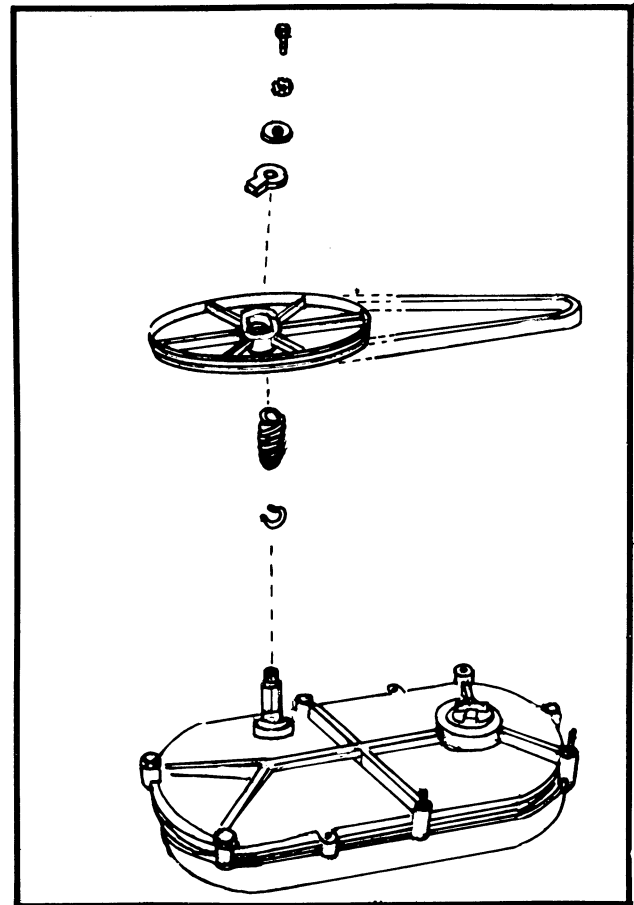

Figure 124
The transmission drive pulley, often referred to as the transmission pulley, is much different in the later models of Speed Queen washers. In early models the transmission pulley is secured to the drive pinion of the transmission with an Allen set screw that is recessed into the drive pinion. On later models the transmission pulley is designed to allow the pulley to operate the agitation cycle through the use of a shifter yoke. This type of pulley eliminates the use of the agitator solenoid and the fluid drive solenoid, *Figure 124*. The drive pulley is made up of the following parts:
- d. The cap screw, lock washer, and the flat washer secures the assembly to the pinion shaft, see *Figure 124*.